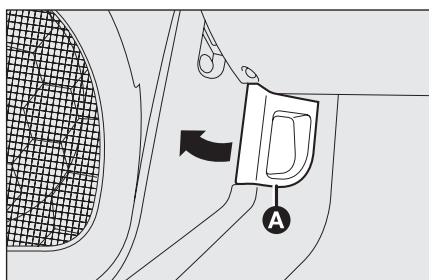

fig. 118
- ☐ pull lever **A**-fig. 118 in the direction of the arrow;